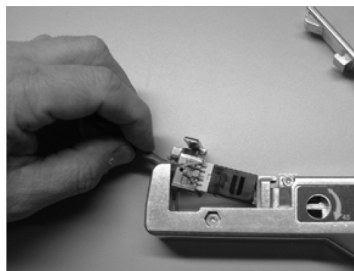

Figure 9
15. Insert the lacing fixture (with the jack connector) into the tool. See Figure 9. Ensure jack connector is aligned properly before compressing tool handle.